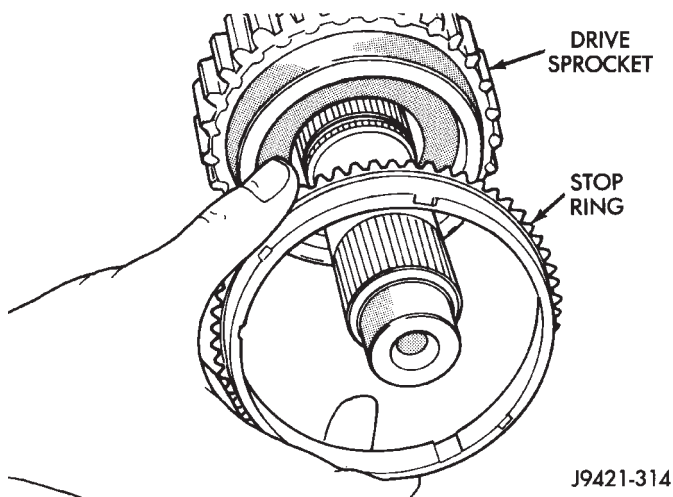

Fig. 35 Synchro Stop Ring Removal
(4) Remove brass stop ring (Fig. 35). Discard stop ring if worn, cracked, or any teeth are missing.